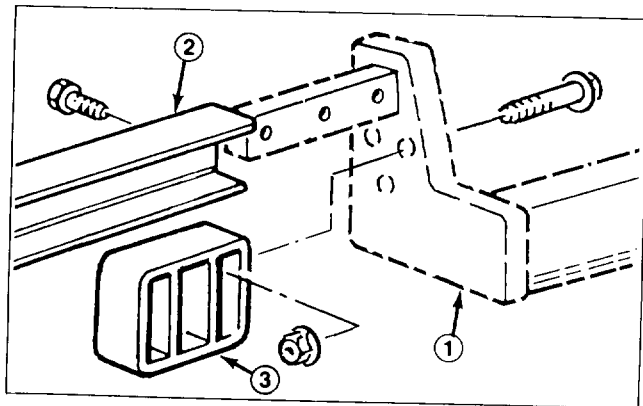

Figure 2
2. Mount a rear cradle to each lift arm with (3) 3/8 - 16 x 1-3/4" capscrews and flange nuts as shown in Figure 2. Torque fasteners to 20-25 ft-lb.
3. Slide carrier frame onto lift arms aligning mounting holes. Secure each side of carrier frame to lift arms with (3) 1/2 - 13 x 1-1/2" lg. capscrews. Torque capscrews to 70-80 ft-lb. (Fig. 2).